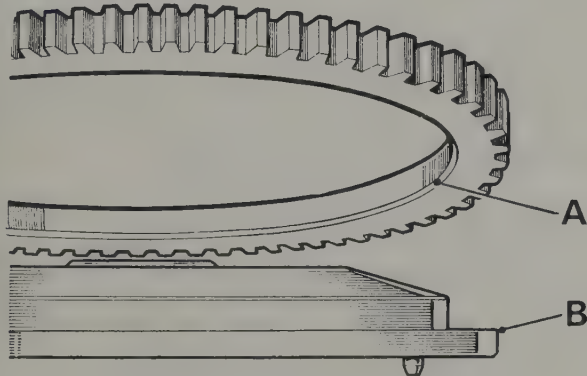

Fig. 1.64. Refitting new starter ring gear
- 3 Offer up the heated ring to the flywheel with the chamfered inner diameter downwards (Fig. 1.64) pressing it firmly against the flange until the ring contracts sufficiently to grip the flywheel. Allow cooling to take place naturally and do not attempt to hasten cooling in any way as this could cause weakening by setting up internal stresses in the ring gear leading to later break up.